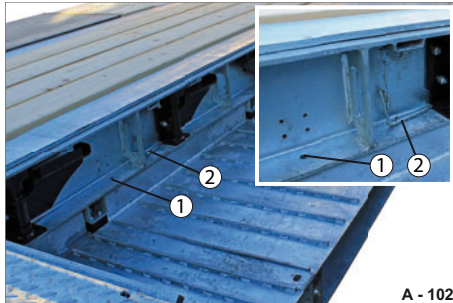

Fig. 110 Wheel cavity frame, released
► Unplug the locking pin (Fig. 110/2) from the bore hole (Fig. 110/1).